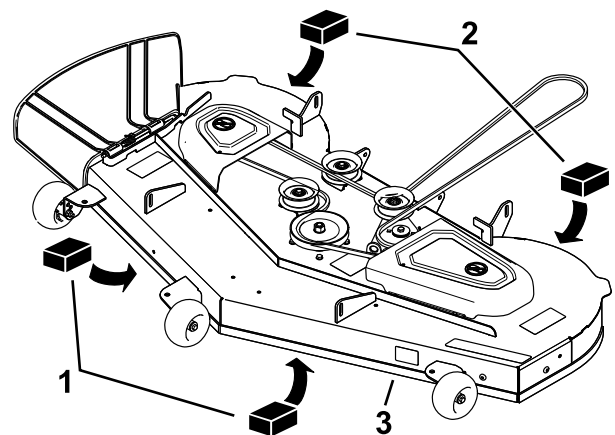

Figure 59
3. Place 2 blocks, each having a thickness of 6.6 cm (2-5/8 inches), under each side of the front edge of the deck but not under the anti-scalp roller brackets (Figure 59).
4. Place 2 blocks, each having a thickness of 7.3 cm (2-7/8 inches), under the rear edge of the cutting deck skirt, 1 on each side of the cutting deck (Figure 59).